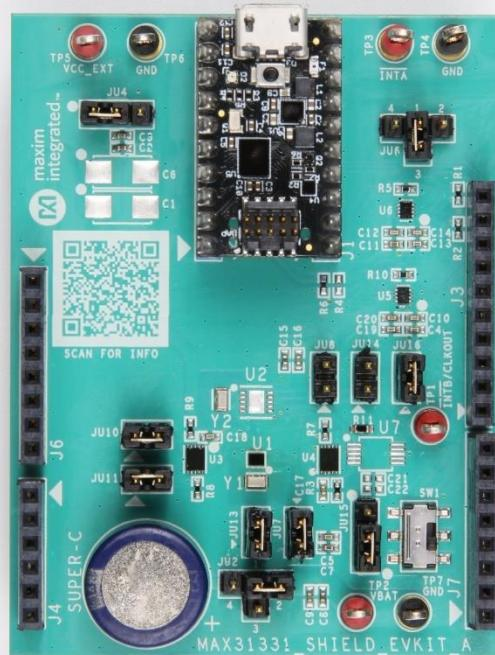

Figure 1. MAX31331 EV Kit Board Connections for WLP IC
4. Connect the MAX32625PICO I²C circuit board to the EV kit at its location (Figure 1).